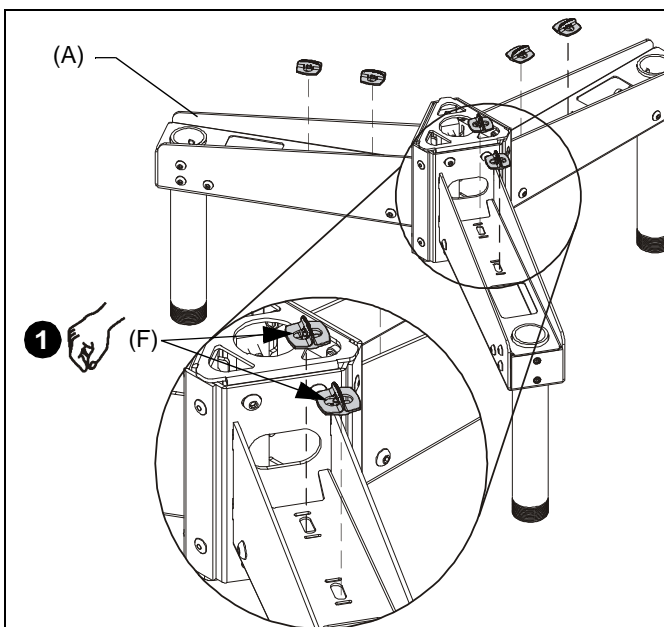

Figure 1
1. **OPTIONAL:** Add cable zip clips (F) to each arm of triple ceiling accessory (A). (See Figure 1)